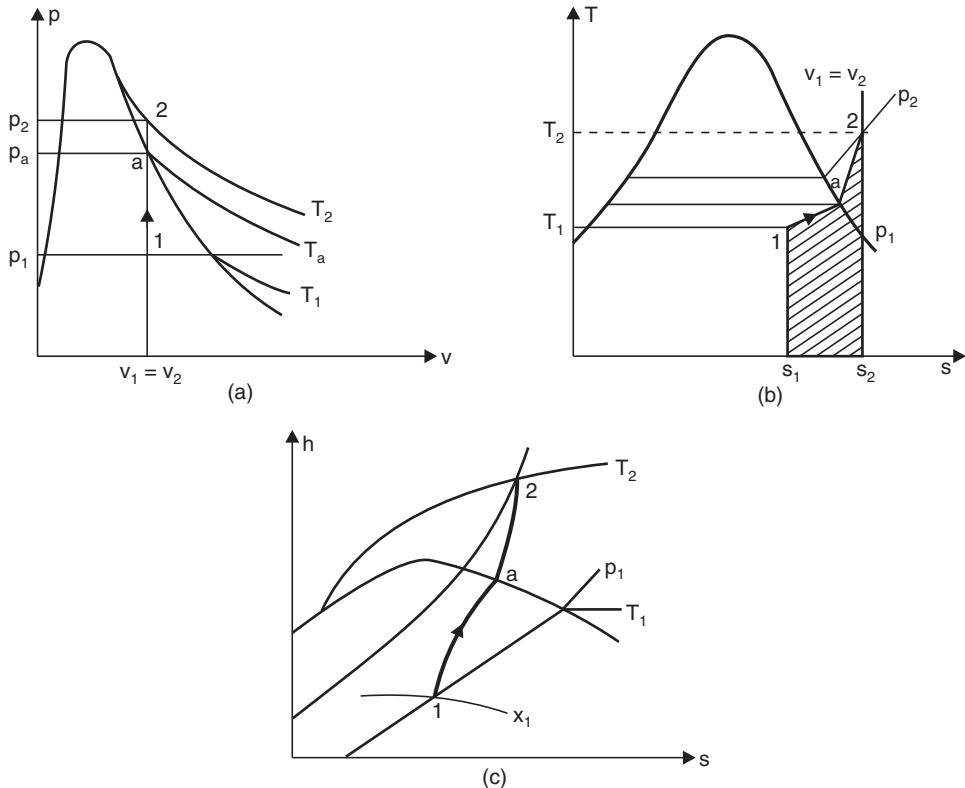

Fig. 2.54. Constant volume process.
**1. Constant Volume Heating or Cooling.** The constant volume heating process is represented on  $p-v$ ,  $T-s$  and  $h-s$  diagram as shown in Fig. 2.54 (a), (b), (c) respectively. It is assumed that the steam is in wet condition before heating at pressure  $p_1$  becomes superheated after heating and pressure increases from  $p_1$  to  $p_2$ .